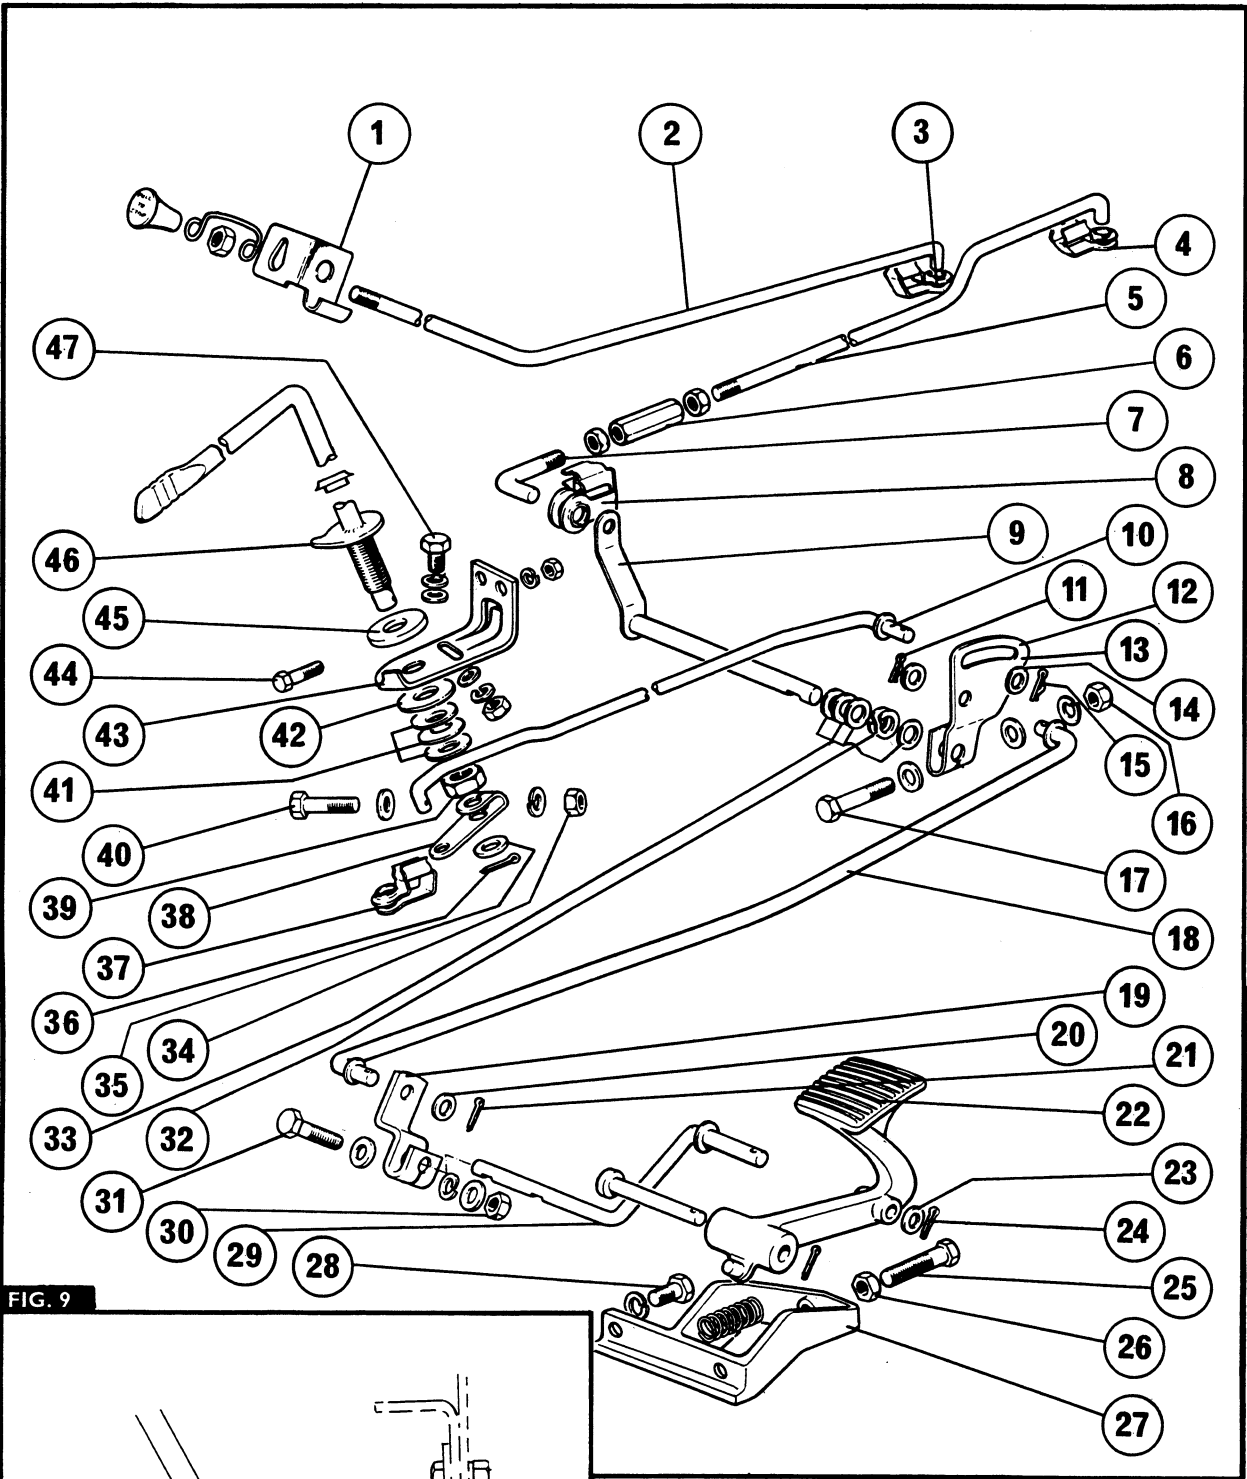

FIG. 9
1. Fig. 9. Remove the rod (2) from the clip (3) at the fuel injection pump.
2. Withdraw the complete assembly through the bracket (1).
1. Fig. 9. Remove the rod (5) from the clip (4) at the injection pump.
2. Disconnect the rod (7) from the clip (8) at the shaft (9).
3. Remove the clip (15) and washer (14) from the rod (10) and then remove the rod from the clip (37) at the lever (38).
4. Remove the nut (16), spring washer, flat washers and bolt (17) from the quadrant (13), then remove the quadrant, spring (32) and washers (33) from the shaft (9).
5. Withdraw the shaft (9).
8. Move the battery as far forward as possible and remove the bolts (44) securing the throttle lever bracket (43) and then manoeuvre the complete lever from beneath the instrument panel.